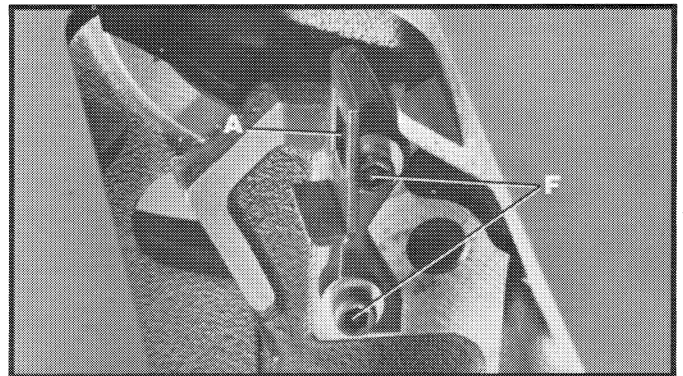

Fig. 3
5. If an adjustment is necessary, adjust splitter bracket (A) Fig. 3, until it is aligned with the blade flange.
6. When you are certain the splitter bracket is aligned with the inside blade flange, tighten the two screws (F) Fig. 3.